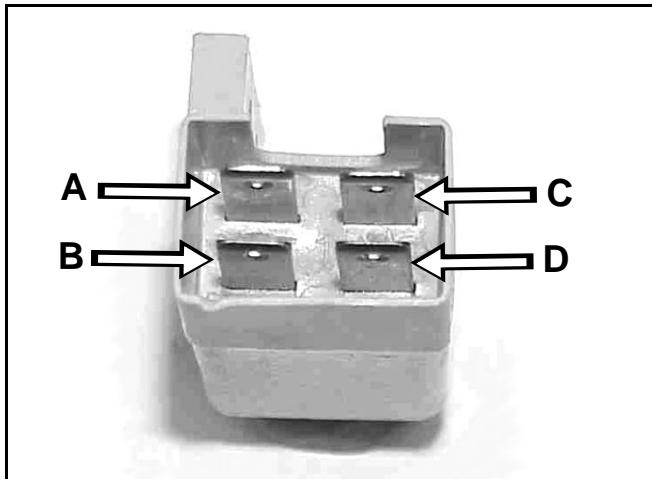

Figure 37 Neutral Switch
2. Using a multimeter, follow the procedure listed below (Figure 37):